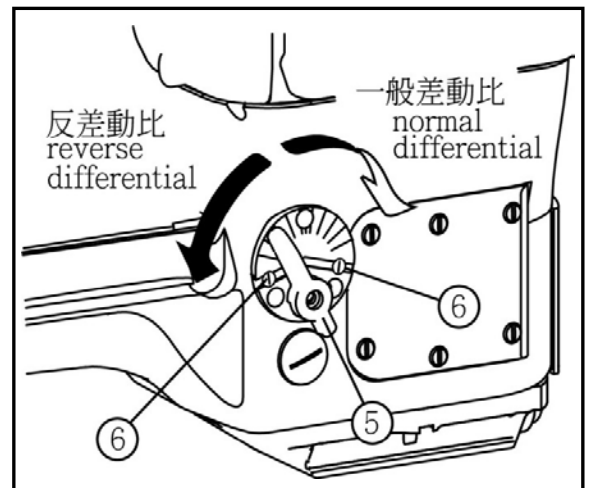

Fig. 28
When the lever ⑤ is set between the scale "4" and scale "5", the movement of the main feed dog and the differential feed dog will be equal. (Fig. 28)